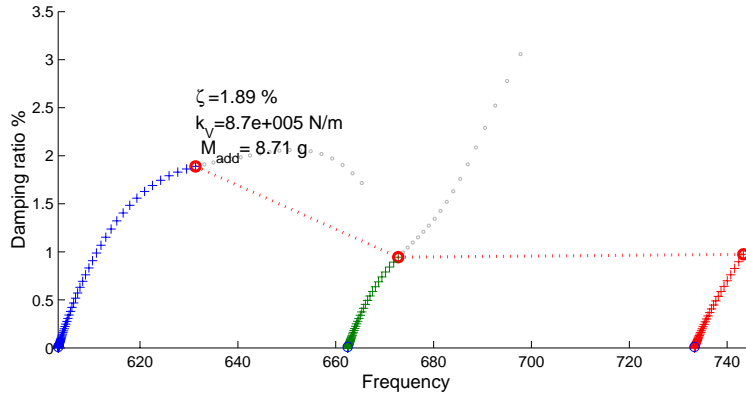

Figure 1.6: Parametric optimization pole display.
Running `prospadd('paroptim')` (Optimal kv button) generates a pole optimization display similar to that of figure 1.6. This graph shows the evolution of poles as a function of kv. Poles at the optimal value are linked in red. Areas where the quality of the estimation is doubtful are shown in grey.
- Clicking on the **Current** K_v button reruns a parameter optimization near the starting value used for the NASTRAN run. The value shown in red in the pole display (see figure 1.6) corresponds to this nominal value. You can then select other points on the display and restart an cycle (step 1 but now **Write NASTRAN SOL** button in the **Verification** tab.